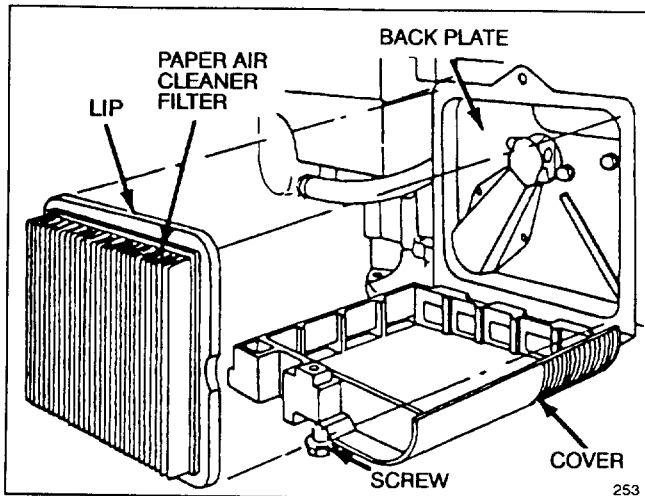

Figure 10
3. Remove paper air cleaner filter (Fig. 10) and discard.
4. Insert new paper air cleaner filter cartridge so lip touches back plate as shown in Figure 10.